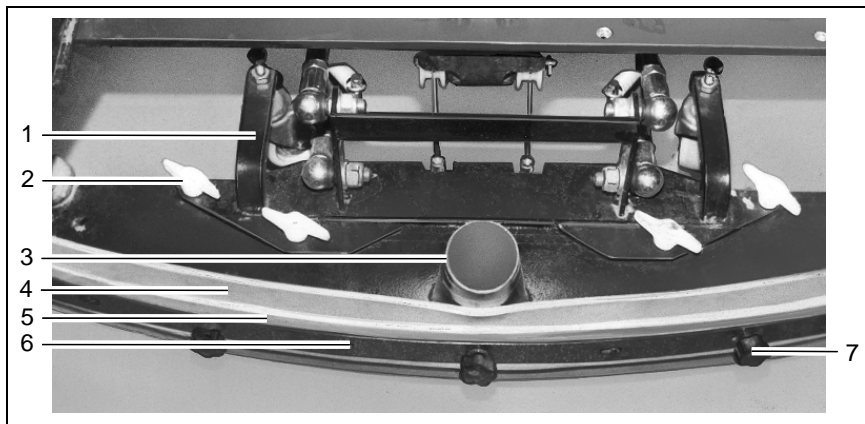

Fig. 34
5. Pull the suction hose from the connection nozzle (Fig. 34/3) of the squeegee.
6. Loosen the wing nuts (Fig. 34/2) on the holding attachment.
2. Unscrew the knurled nuts (Fig. 34/7).
3. Remove the clamping rail, support strip and sealing strip (Fig. 34/4-6).